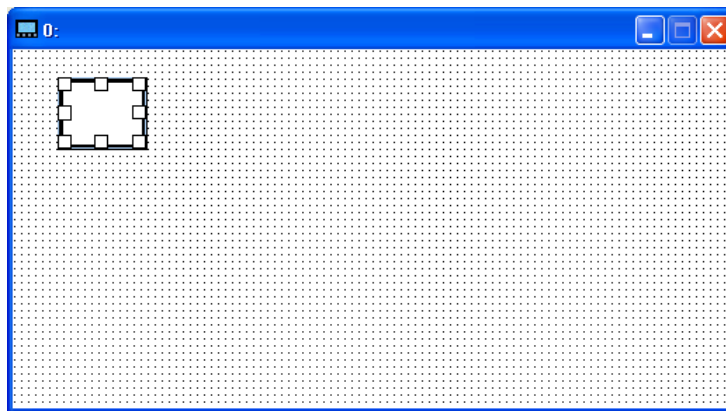

Figure 6-15 Inserting a button
- Step 2: After the users click **Button** on the **Object** menu or  on the object toolbar, they can click where they want to begin the selection of an area in the page editing area, hold down the left mouse button, and drag the cross over the area that they want to select. The object  will be inserted into the area selected after the users release the left mouse button, as shown in Figure 6-15.